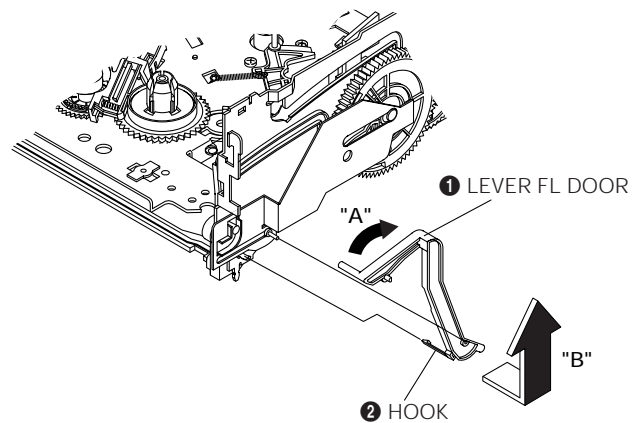

Fig. 4-5 Lever FL Door Removal
1. Remove the Lever FL Door. (Refer to Fig. 4-5)
2. Pull the Holder FL Cassette Ass'y ❶ to the eject position.
3. Pull the Holder FL Cassette Ass'y ❶ as grasping the Holder FL Cassette Ass'y ❶ and Lever FL Cassette-R ❷ in the same time to release hooking from Main Base until the Boss [A], [B] of Holder FL Cassette Ass'y ❶ is taken out from the Rail [C], [D].
4. Lift the Holder FL Cassette Ass'y ❶ in the direction of arrow "B" in this time, you have to grasp the Lever FL Cassette-R ❷ continuously until the Holder FL Cassette Ass'y ❶ is taken out completely.
**Note :** Be sure to insert Lever FL Cassette-R ❷ in the direction of "A" to prevent separation and breakage of the Lever FL Cassette-R ❷ at disassembling and reassembling.